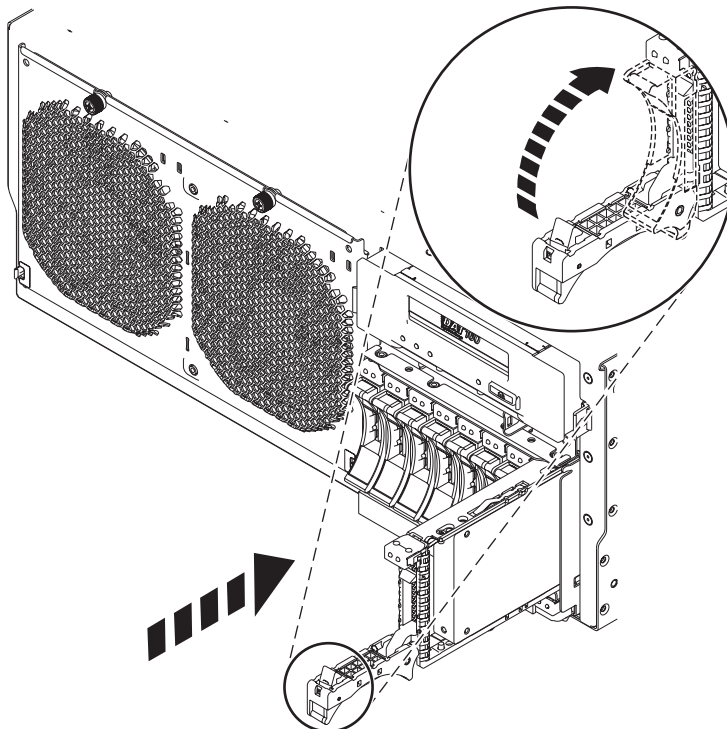

Figure 8. Installing the disk drive in the system
5. Slide the drive all the way into the system or expansion unit, and push the drive handle (A) in until it locks, as shown in Figure 8.